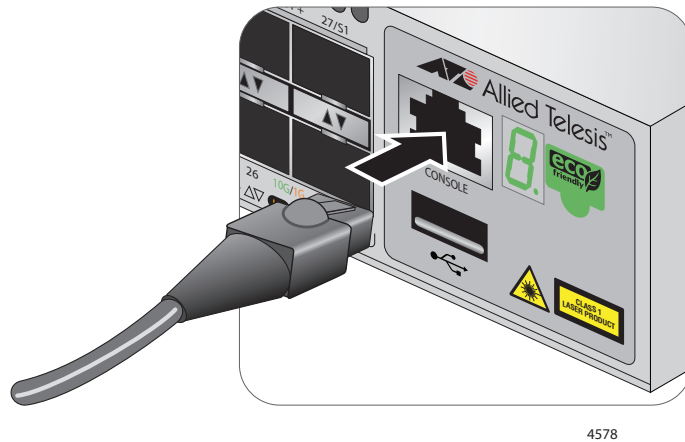

Figure 37. Connecting the Management Cable to the Console Port
1. Connect the RJ-45 connector of the management cable to the console port on the front panel of the switch, as shown in Figure 37.